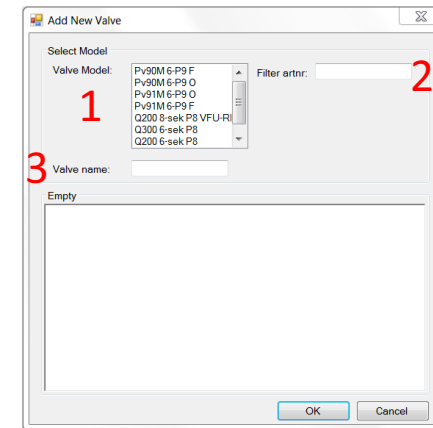

Figure 55. Select valve block.
It is possible to select a valve block either by marking the requested valve block in the drop down list with valve models, see Figure 55 (1) or by writing in the description in the box Filter, see Figure 55 (2). Note the filter function is sensitive to how upper and lower case are used.
By marking and delete the predefined name that will be shown when a valve has been selected, see Figure 55 (3), it is possible change it with an own name.